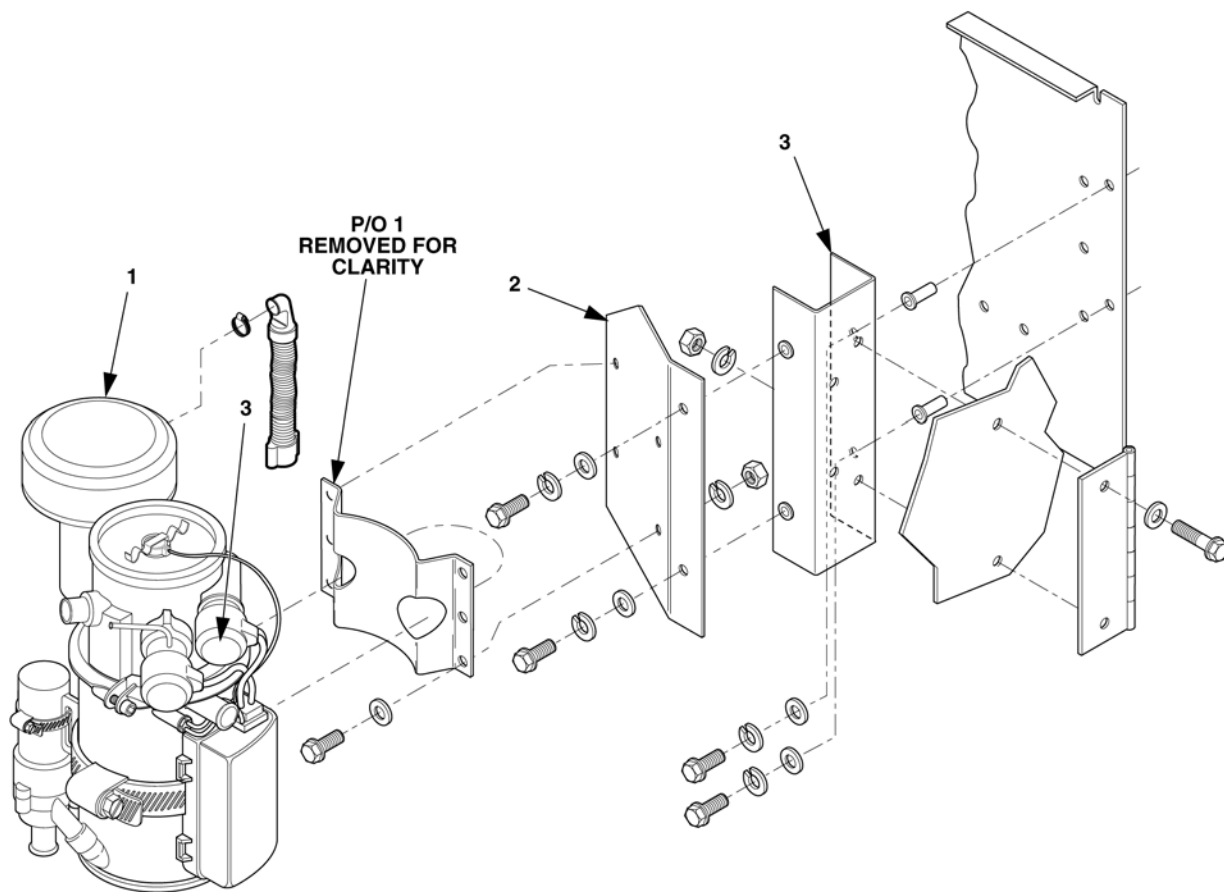

Figure 4-39. Heater Assembly Removal.
19. Remove heater assembly (1), Figure 4-39, mounting plate (2), bracket (3), and hardware from left side control box panel, and reattach top hinge and lower hinge and existing screws in accordance with TM 9-6115-641-24.